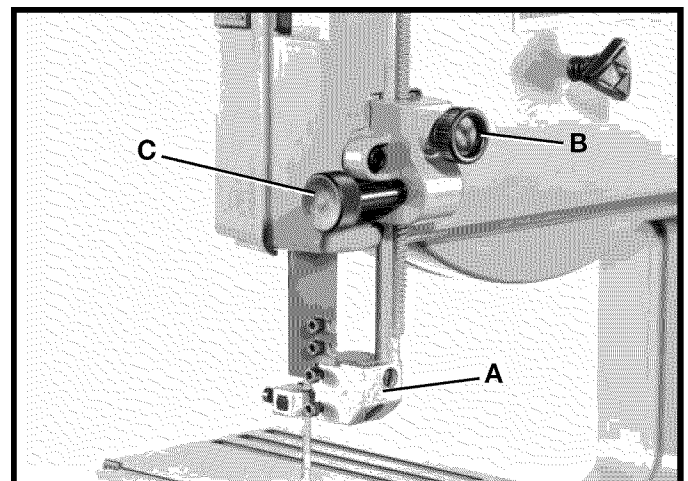

Fig. 26
The upper blade guide assembly (A) Fig. 26, should always be no more than 1/4" above or as close as possible to the top surface of the workpiece being cut. Loosen knob (B) Fig. 26, rotate knob (C) and position the guide assembly (A) to the desired position. Then tighten knob (B).